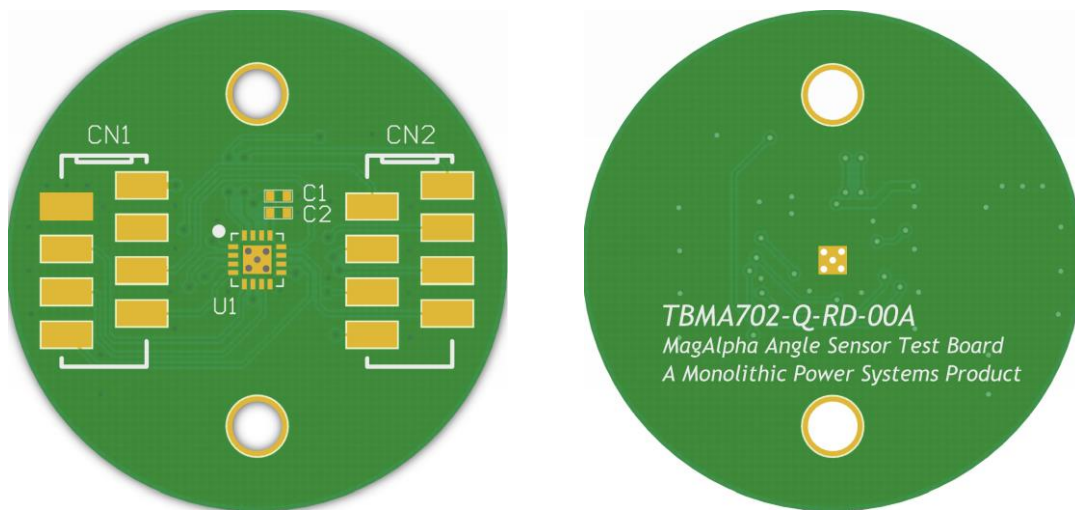

Figure 12: RD Board Overview Type 2
Figure 12 shows an overview of the Type 2 round (RD) board type.